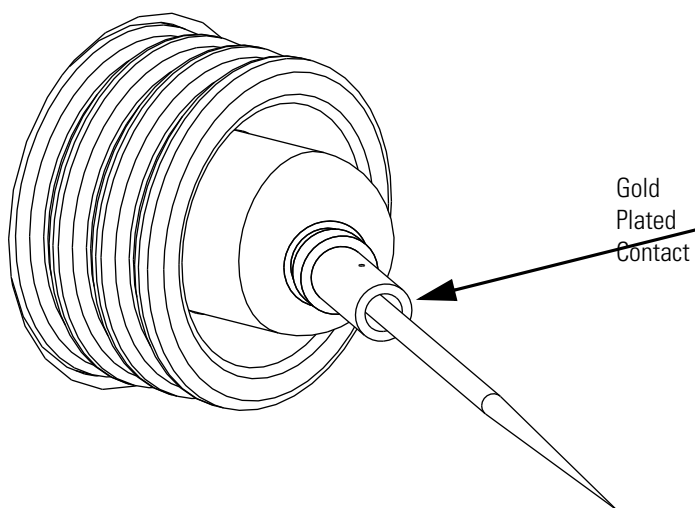

Figure 14. Corona needle, view from rear
- c. Using pliers, grasp the needle by the gold plated contact and push the needle straight into the socket. See Figure 14.